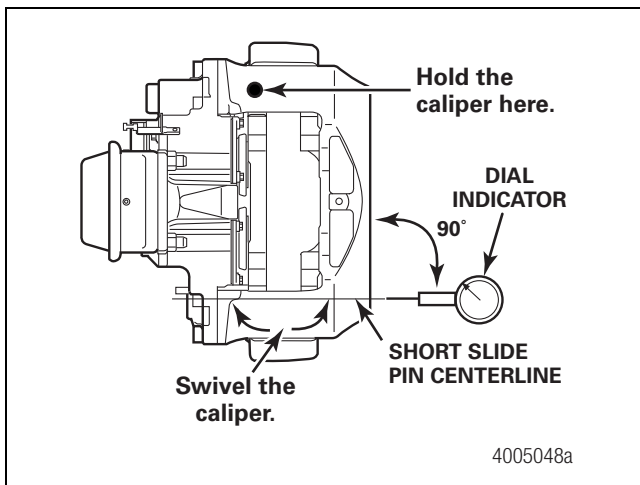
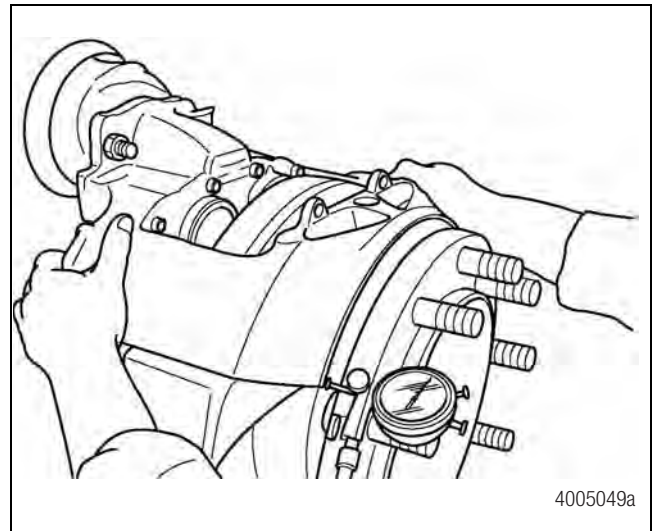

Figure 4.14
Figure 4.15
1. With the pads removed, pull the caliper housing assembly OUTWARD toward the wheel flange. Attach a dial indicator so that it is in line with the centerline of the short slide pin. Attach the indicator to the hub. Figure 4.14.
2. Hold the caliper so that it cannot move. Swivel the caliper until it stops in one direction. Set the gauge to ZERO. Figure 4.14 and Figure 4.15.
3. Move the housing in the opposite direction until it stops. Figure 4.15. The maximum acceptable reading is 0.118-inch (3 mm).